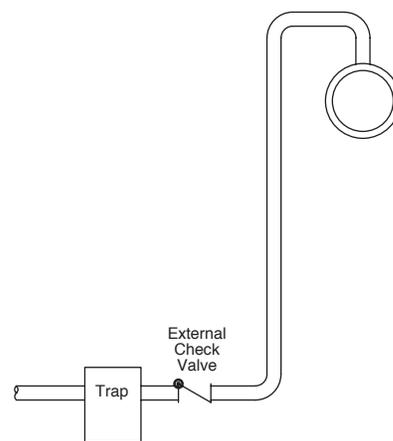

Figure 11-26. When trap valve opens, steam pressure will elevate condensate. Every 2' of lift reduces pressure differential by 1 psi.
3. Elevating condensate. Every 2' of lift increases the discharge pressure (and the differential) by one psi when the discharge is only condensate. However, with flash present, the extra back pressure could be reduced to zero. See Fig. 11-26, noting the external check valve.